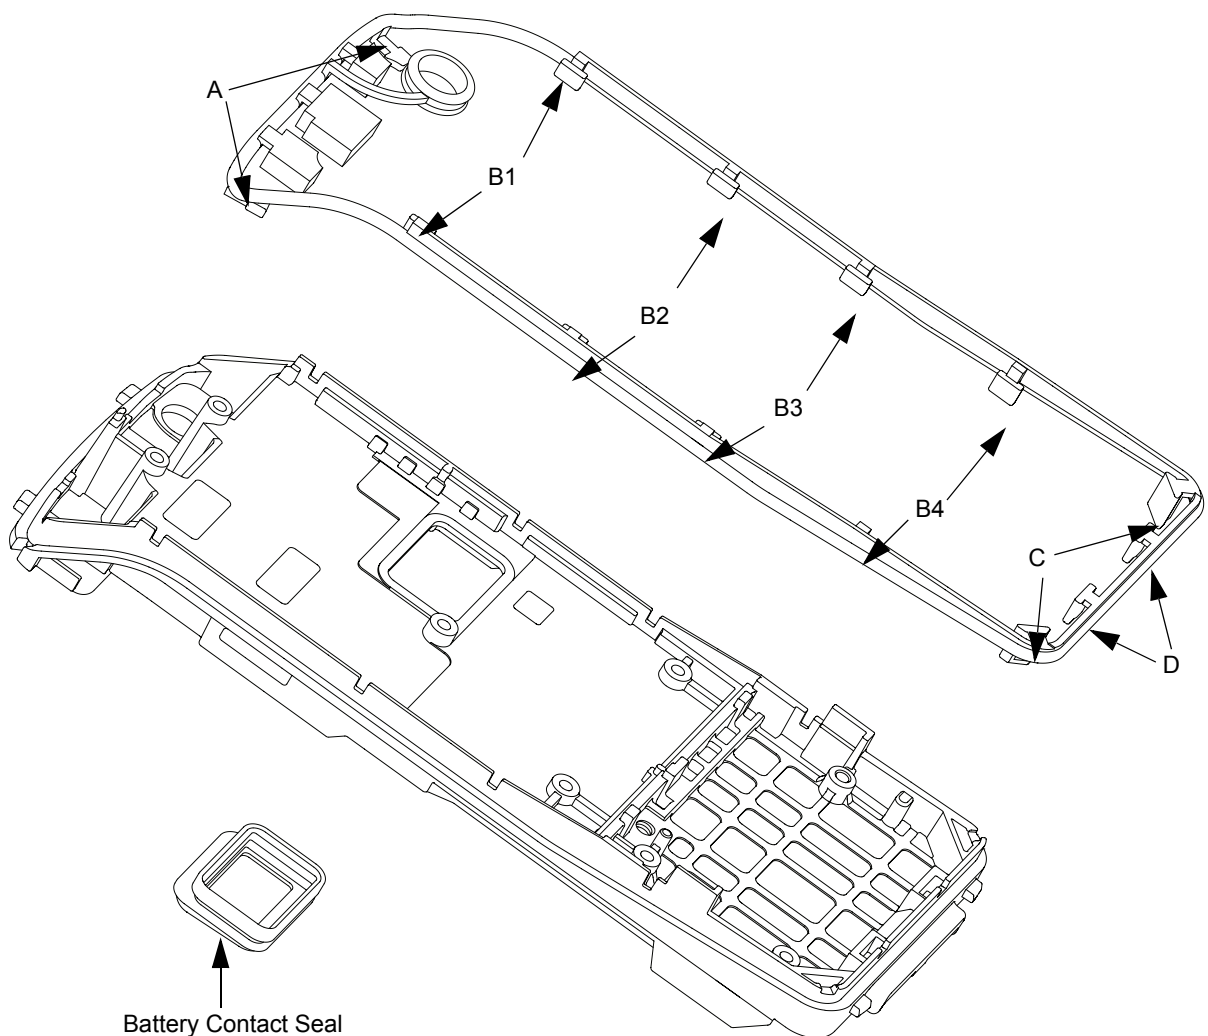

Figure 5-18. O-ring reassembly.
- iv. Insert **B1** to **B4** following the sequence as shown in Figure 5-18.